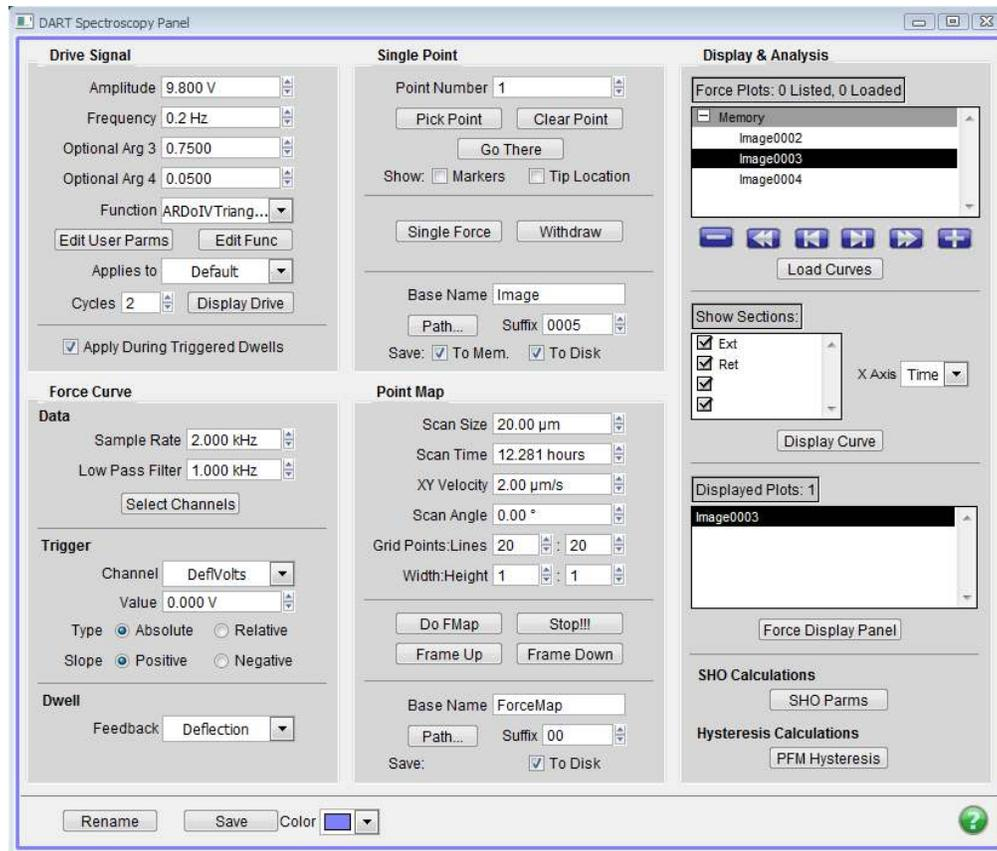

Figure 8.3.: The DART Spectroscopy Panel
2. On the Spectroscopy Panel, (Figure 8.3 on page 107), go to the Drive Signal section.